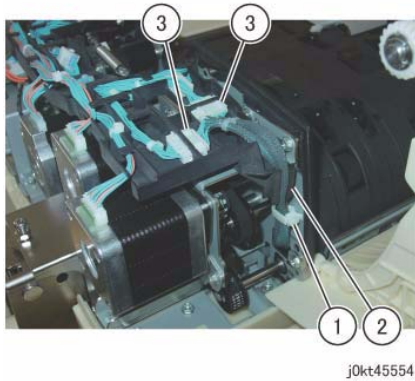

Figure 1 Disconnect the Harness Guide connectors
5. Disconnect the Harness Guide connector (x2). (Figure 1)